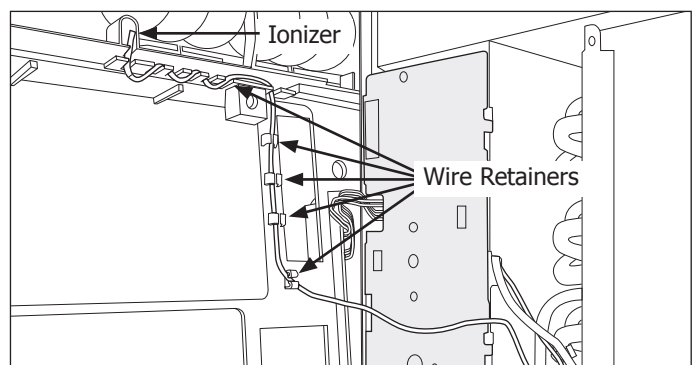

Figure 4-109.
8. Turn front panel to access the ionizer cable, using caution not to strain the wire harness connections. Remove ionizer cable from the retainers on the back side of the front panel. (See Figure 4-109)